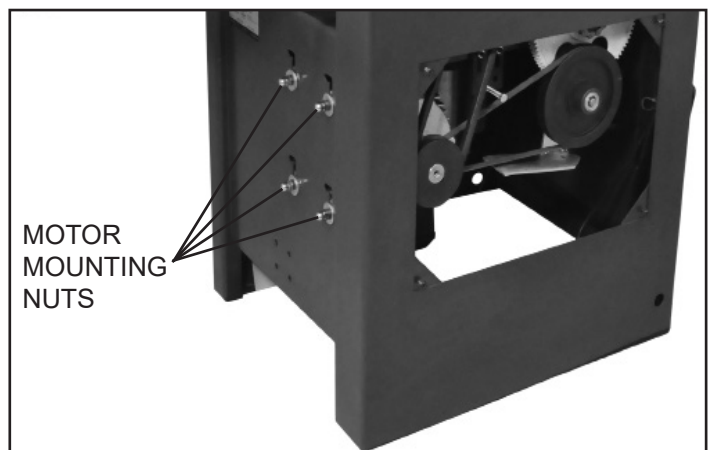

FIG. 32
4. From outside, rear of the machine, loosen the four Cap Nuts (#201, FIG. 32) that secure the motor in place. Lift the motor to slacken the tension on the drive belt, or move it down to increase the belt tension.